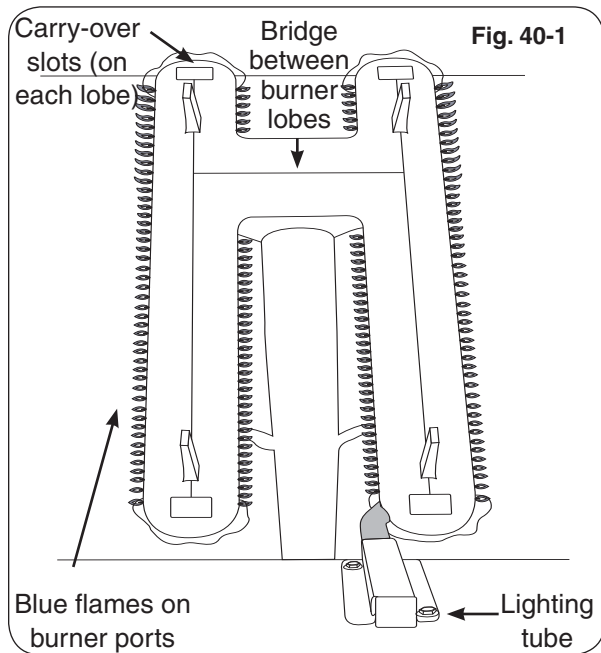

Fig. 40-1
Flames from a properly adjusted main burner with no wind or breeze present will appear fairly steady, consistent, and mostly blue. If the tip of a flame were to turn orange, it should only do so briefly and then become blue again. The flames will appear to burn while touching the burner ports (see Figure 40-1).
5. Repeat steps 1-4 until the flames appear to touch the burner ports, burning fairly steadily and mostly blue (see Fig. 40-1).